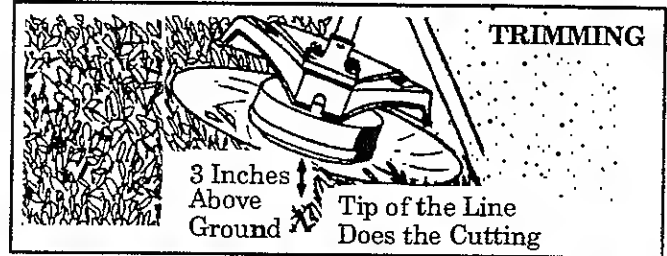

Figure 13
1. **TRIMMING** – Figure 13. Hold bottom of the trimmer head about 3 inches above ground and at an angle. Allow only the tip of the line to make contact. Do not force trimmer line into work area.